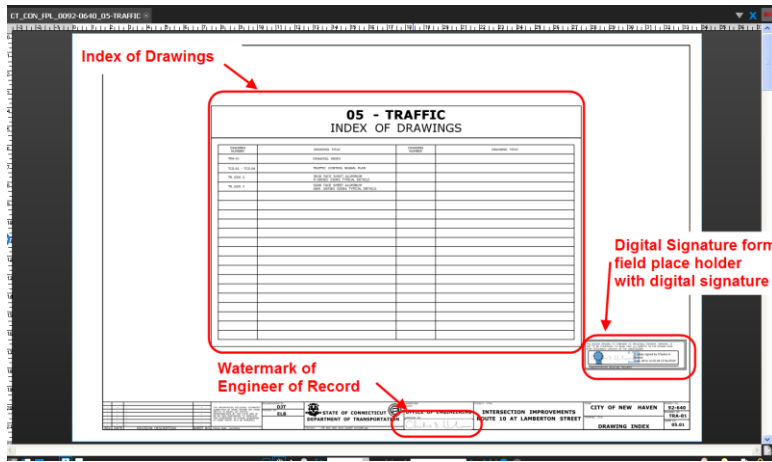

Figure 1 Discipline Subset Bookmarks, Index of Drawings, and Signature fields
12. Each subset shall contain bookmarks; one for each page. Figure 1 displays an example of bookmarks. See Publishing MicroStation Content to PDF Format.pdf for more instructions.
- Figure 1 also displays examples of subgroup folders. While publishing, subgroups may be created to contain similar sheets. See Publishing MicroStation Content to PDF Format.pdf for more instructions.
18. The first page of each subset shall be a subset cover sheet, this includes FIO subsets. This cover sheet shall contain both; an index of drawings contained within the subset that includes both drawing numbers and drawing titles and the form field place holder(s) which receives the digital signatures. The following cell has a table for the index of drawings and the digital signature cell place holder BDR Discipline Cover Sheet cell. This table must include the subset name and number displayed as a heading in the table. See Figure 1 for an example.